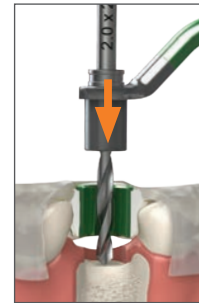
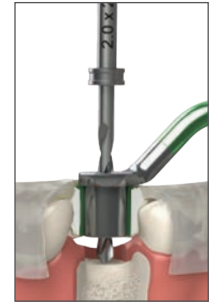

Figure 1
Figure 2
- In cases where the patient has limited opening/interocclusal space, components may be stacked out of the mouth. Insert the drill in the handpiece and place through the appropriate drill guide. Then insert the assembly into the master cylinder, sliding the drill guide down into place (Figure 1). Ensure that the drill guide is evenly seated before initiating drilling (Figure 2).